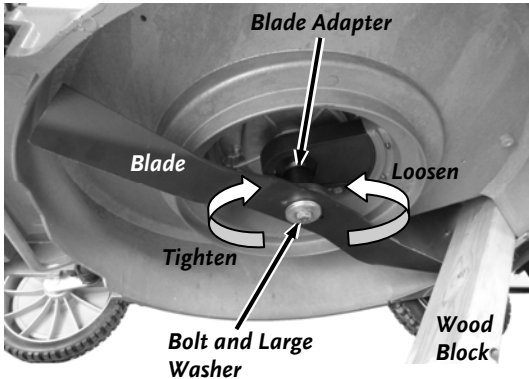

Figure 17
2. Use a block of wood to hold the blade steady (**Figure 17**).